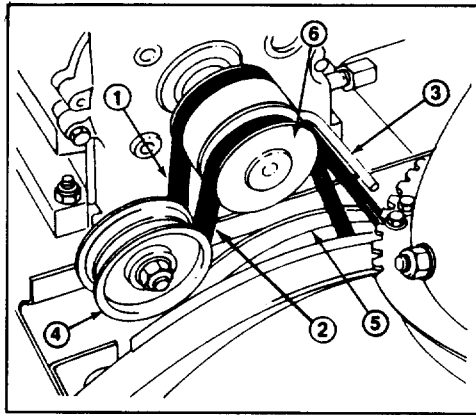

Figure 24
3. Remove auger/impeller drive belt from engine pulley and large auger/impeller pulley (Fig. 24).
4. Install new belt around large auger/impeller pulley (Fig. 24). Next, loop belt over engine pulley, making sure that belt is on inside of idler pulley and belt guide (Fig. 24).
6. Reinstall belt cover with (2) screws.
4. Remove auger/impeller drive belt from engine pulley and large auger/impeller pulley (Fig. 24).
8. Set unit upright and remove traction drive belt from engine pulley and large traction pulley (Fig. 24).
9. Install new belt around large traction pulley. Next, loop belt over engine pulley, making sure that belt is on inside of belt guide (Fig. 24).
13. Reinstall auger/impeller drive belt around large auger/impeller pulley and engine pulley, making sure that belt is on inside of idler pulley and belt guide (Fig. 24).